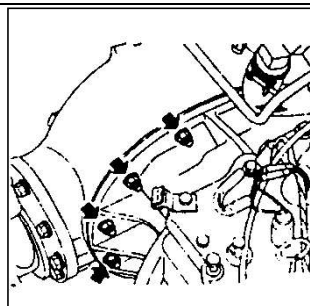

Fig. 1-5
- (11) Remove nuts securing axle case to differential gear carrier. (see Figure 1-5).
- (12) Remove driving axle assembly.